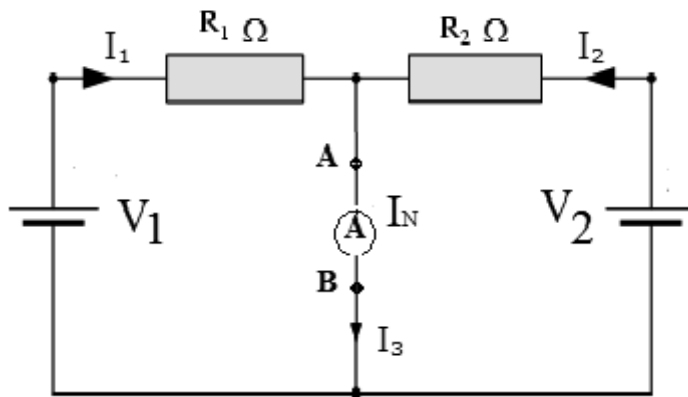

Figure 2
4. Connect the circuit as shown in circuit diagram of figure 2.
6. Switch ON both voltage sources V_1 and V_2 and note down the current through the short terminals A and B (i.e. I_N). As shown in figure 2.